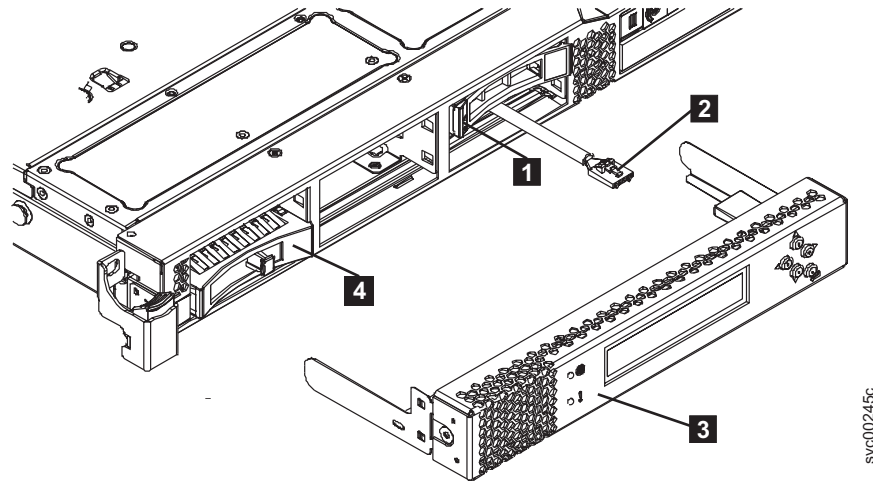

Figure 105. Boot drive for the SAN Volume Controller 2145-CF8
7. Slide the orange release latch (**1** in Figure 105) gently to the left to unlock the drive handle of the boot drive in drive bay 4, which is the top, right drive bay.